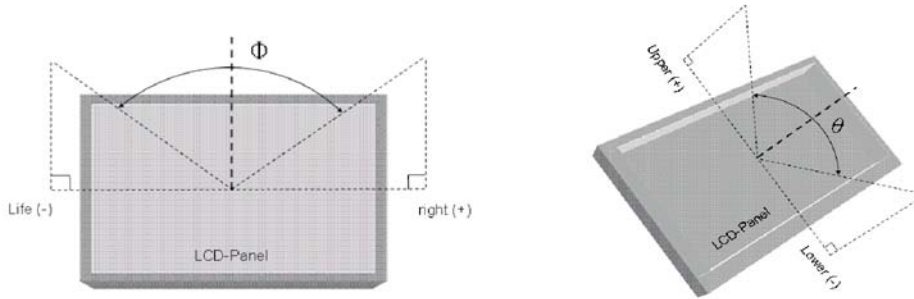

Fig 3-4 Definition of Viewing Angle
- *4) Definition of Viewing Angle(ϕ, z), refer to Fig 3-4 as below: